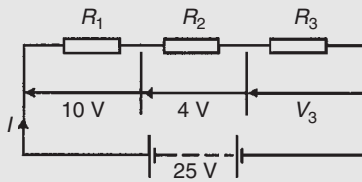

Figure 5.3
**Problem 2.** For the circuit shown in Fig. 5.3, determine the p.d. across resistor  $R_3$ . If the total resistance of the circuit is  $100 \Omega$ , determine the current flowing through resistor  $R_1$ . Find also the value of resistor  $R_2$ .